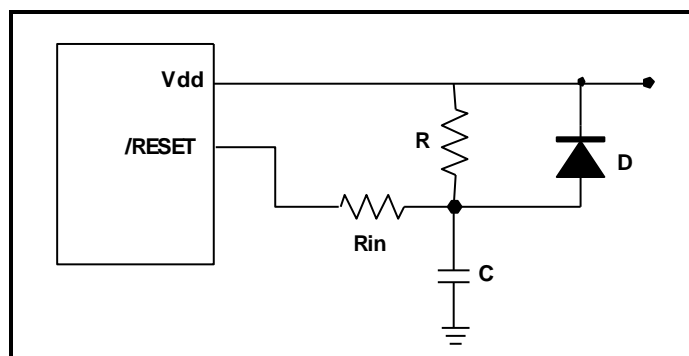

Figure 6-47 External Power-up Reset Circuit
The circuit shown in Figure 6-47 uses an external RC to produce a reset pulse. The pulse width (time constant) should be kept long enough for VDD to reach minimum operation voltage. This circuit is used when the power supply has a slow rise time. Since the current leakage from the /RESET pin is  $\pm 5 \mu\text{A}$ , it is recommended that R should not be greater than 40 K $\Omega$ . In this way, the /RESET pin voltage is held below 0.2V. The diode (D) functions as a short circuit at the moment of power down.